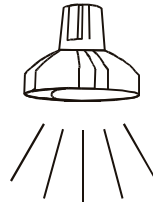

Figure 5.46: LUXmeter probe positioning
Step 3 Connect LUXmeter probe to the instrument RS232 connector and follow the positioning diagram shown in figure 5.46 to perform illumination measurement. Turn on the LUXmeter probe by pressing its ON/OFF key. (the Green LED should light on the probe). Use the **Help** function if necessary.